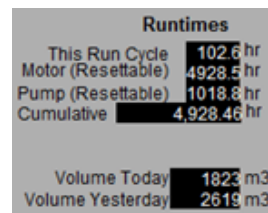

Figure 19 – Well Pump runtime and flow statistics
**Runtimes & Flow Totals:** The indicators on the far right side of the top part of the pump pop-up are purely for displaying status information. The first are the pump’s runtime indicators, which are calculated by the PLC based on the pump’s running status signal. See Figure 19.